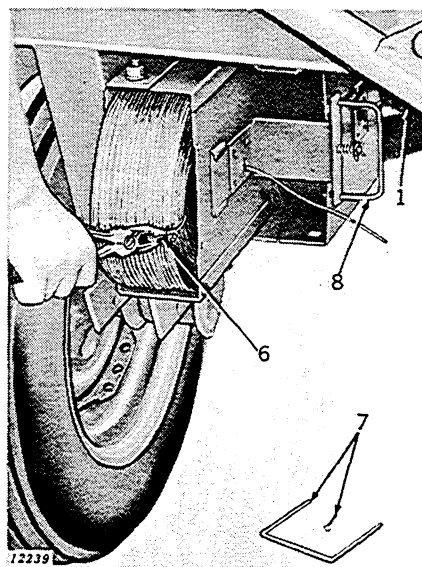

Figure 18
1. (Figure 18) To load the bottom wire boxes, it is necessary to raise the needle frame.
6. (Figure 18) Cut last banding wire and insert balance of coil.
7. (Figure 18) Replace wire box pin.
8. (Figure 18) All four boxes load the same except on engine-mounted balers, the bottom front wire box is loaded from the rear by removing the retaining clip. Pull handle to the right and slide clip to the rear; let hang on rear wire. Insert coil as described above and replace retaining clip.